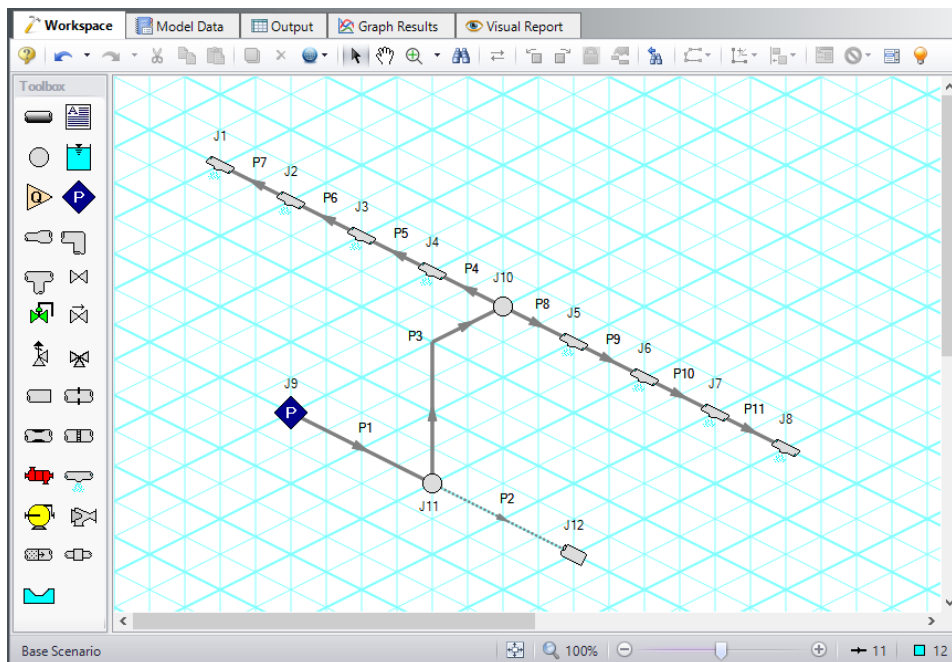

Figure 4: Spray discharge system with the isometric grid shown
AFT Fathom allows the user to place pipe or junction objects anywhere in the Workspace. Objects are placed on a 2D grid by default, as was the case with this example. At times it may be convenient to demonstrate the three-dimensional nature of a system. For example, if you are building a model based on isometric reference drawings. AFT Fathom includes an isometric grid for these cases. The isometric grid has three gridlines that are offset by 60 degrees, representing the x, y, and z axes. Figure 4 shows the spray discharge system built on an isometric grid. The completed model file drawn in isometric can be seen in the Examples folder and is named Spray Discharge Isometric.
10. Draw Pipes 1 and 2, as shown in Figure 4.
12. Draw Pipes 4-11, as shown in Figure 4.